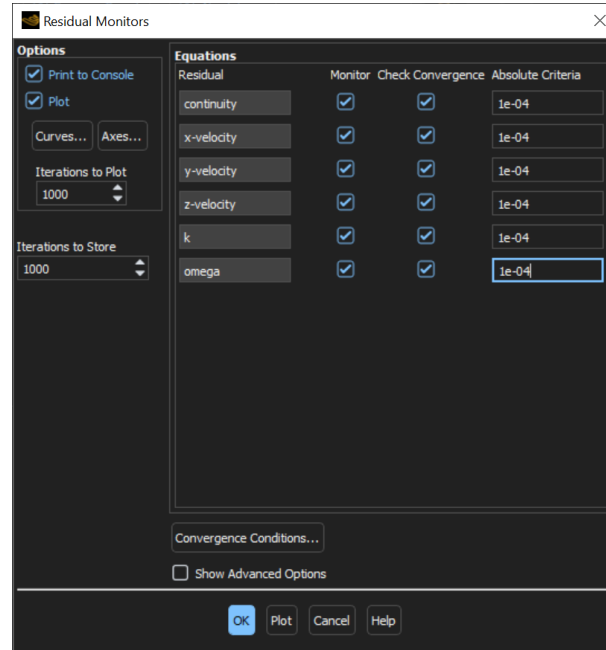

Figure 51: Convergence criteria in the *Residual Monitors* dialog box in Fluent.
- (b) Change the values for the Convergence Absolute Criteria from 0.001 to 1×10^{-4} for the continuity, the velocity components, turbulent kinetic energy and omega, as illustrated in figure 51.